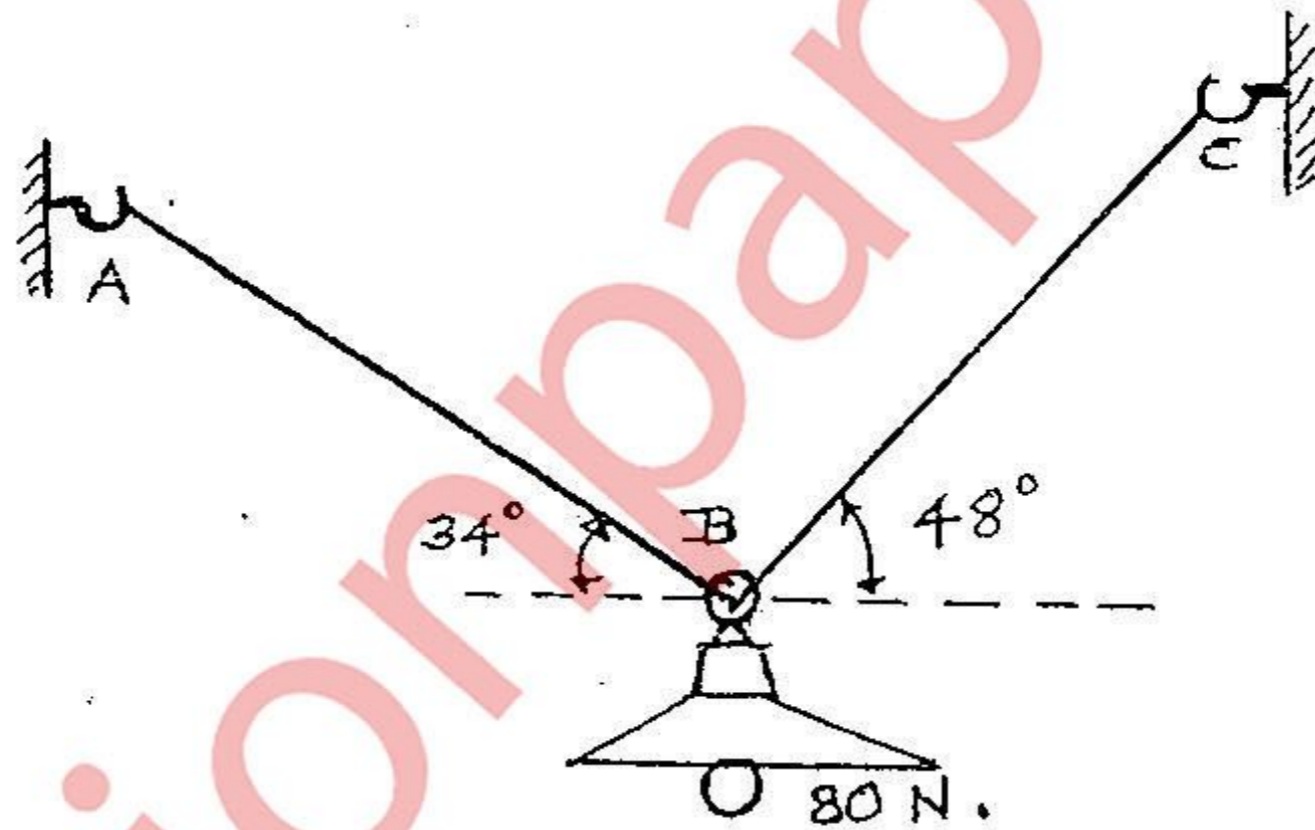

FIG. 5
b) Two steel wires AB & BC support a lamp weighing 80 N (fig.5). Both wires have diameter 0.75 mm. Determine the tensile stresses in wires AB & BC. (06 M)